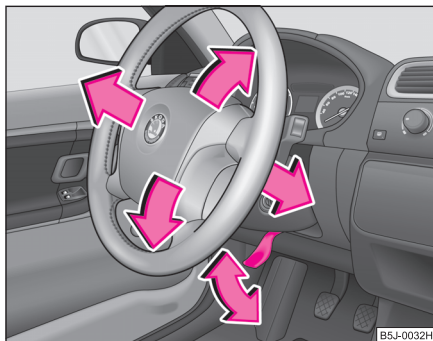

Fig. 87 Adjustable steering wheel: Lever below steering column
- Pull the lever below the steering column ⇒ fig. 87 down ⇒ ⚠.